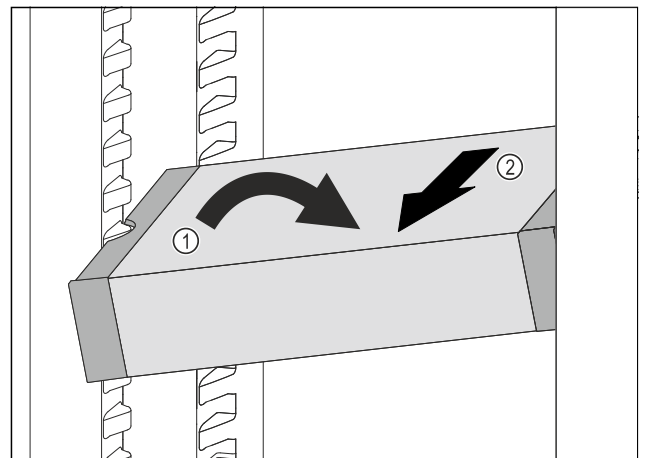

Fig. 145
- ▶ Set VarioSafe in refrigerator compartment at an angle. Fig. 145 (1)
- ▶ Take VarioSafe out to the front. Fig. 145 (2)